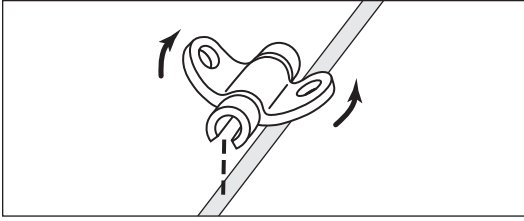

Figure 7
- After SWG has been removed and necessary lines have been connected or locked, spread wings of rubber clamp and position on catheter making sure catheter is not moist, as required, to maintain proper tip location (refer to Figure 7).